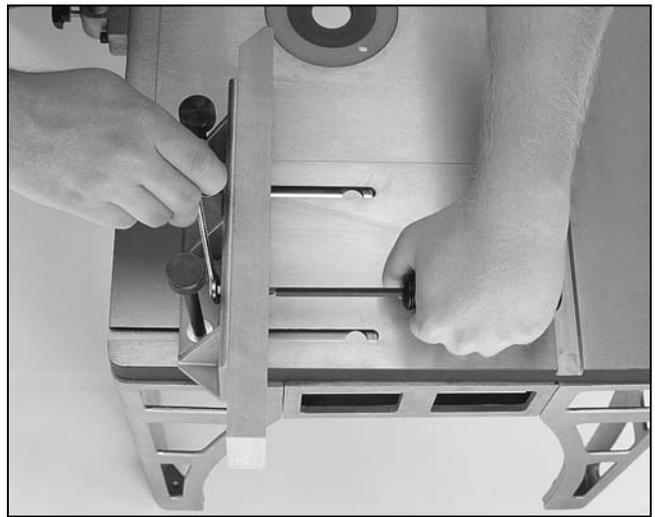

Figure 5. Attaching the wood facing.
Step 2 - Attach the wood facings to the fence using the flat head screws, flat washers and hex nuts provided. **Figure 5.** Tighten for now; however, you will notice that there are slots in the back of the fence for side to side adjustment. Side to side adjustment of the wood facings is dependent upon the overall diameter of the router bit. For maximum safety and support, adjust the wood facings as close to the router bit as possible. Check clearance before starting the router.